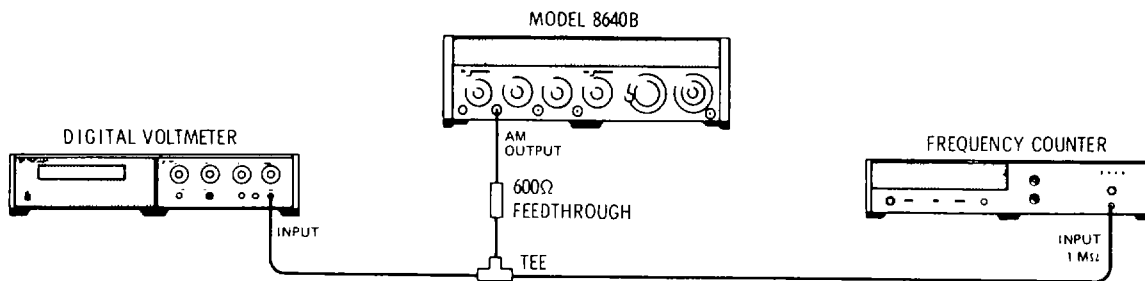

Figure 4-16. Internal Modulation Oscillator Test Setup.
1. Connect equipment as shown in Figure 4-16 after setting Signal Generator's controls as follows: